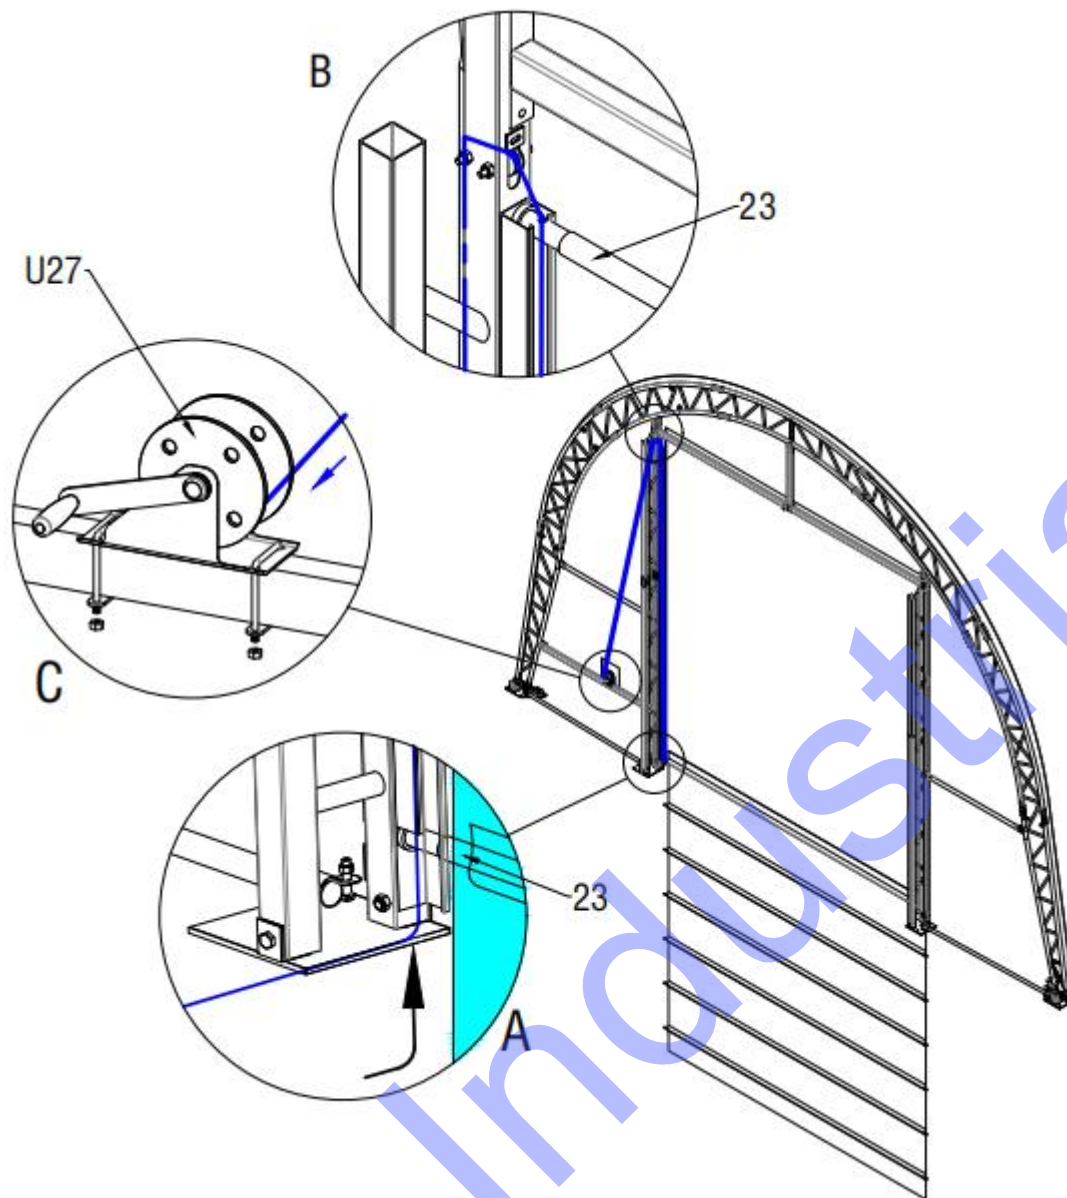

Figure 20
4. When you close the door ,we can use the Lock steel wire for door(No.U27) and Lock steel wire for the wrench handle to fix.(Figure 20)